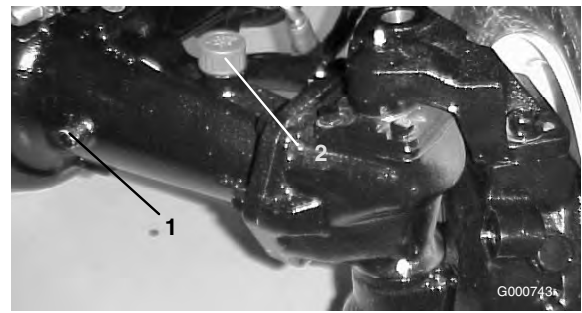

Figure 70
2. Remove a check plug (Figure 70) from one end of axle and make sure lubricant is up to bottom of hole. If level is low, remove the fill plug (Figure 70) and add enough lubricant to bring the level up to the bottom of the check plug holes.